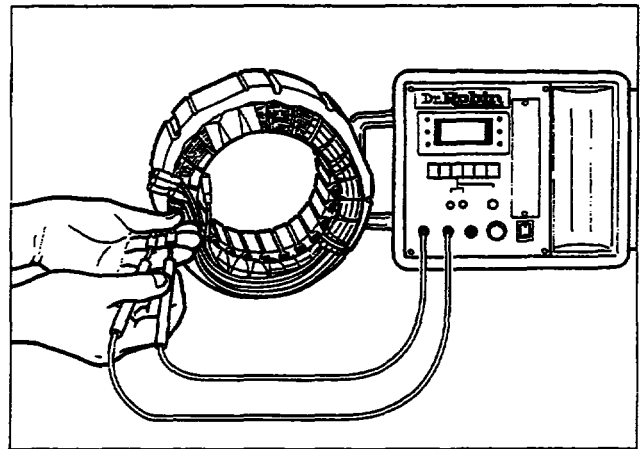

Fig. 11-1
- Measure the resistance between terminals on stator leads. (See Fig. 11-1.) Refer to Table 11-1 for normal resistance. If stator is faulty, replace with a new one.